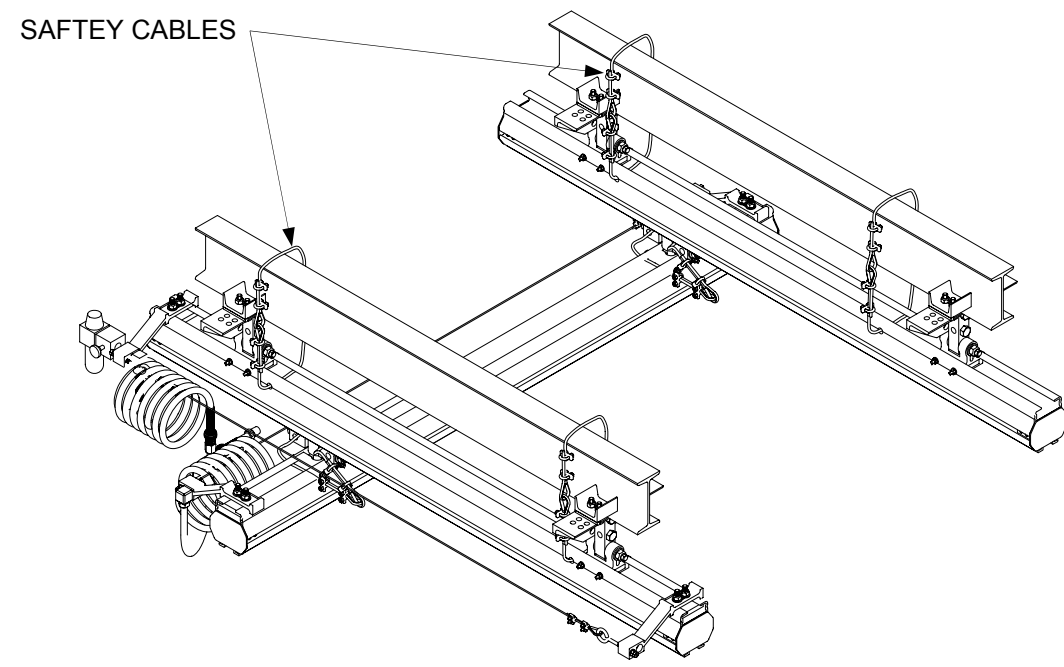

Fig. 18
7. INSTALLING SAFETY CABLES (FIGURE 18, 19, 20, 21)